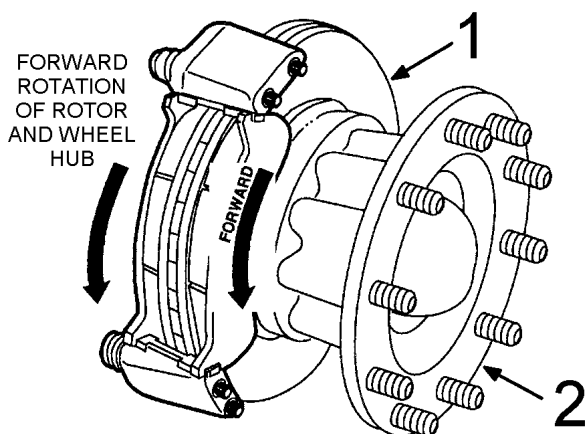

Figure 35 Remove Rotor and Wheel Hub Assembly
4. Remove rotor and wheel hub assembly (Items 1 and 2, Figure 35), driver side front shown. Refer to ROTOR AND WHEEL HUB ASSEMBLY, Remove (See ROTOR AND WHEEL HUB ASSEMBLY, page 31).